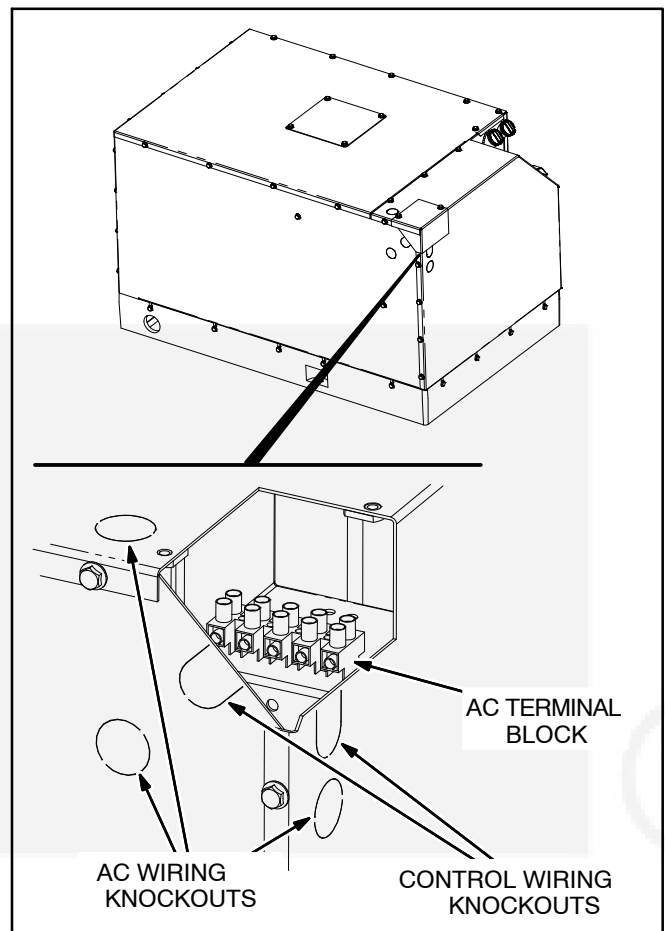
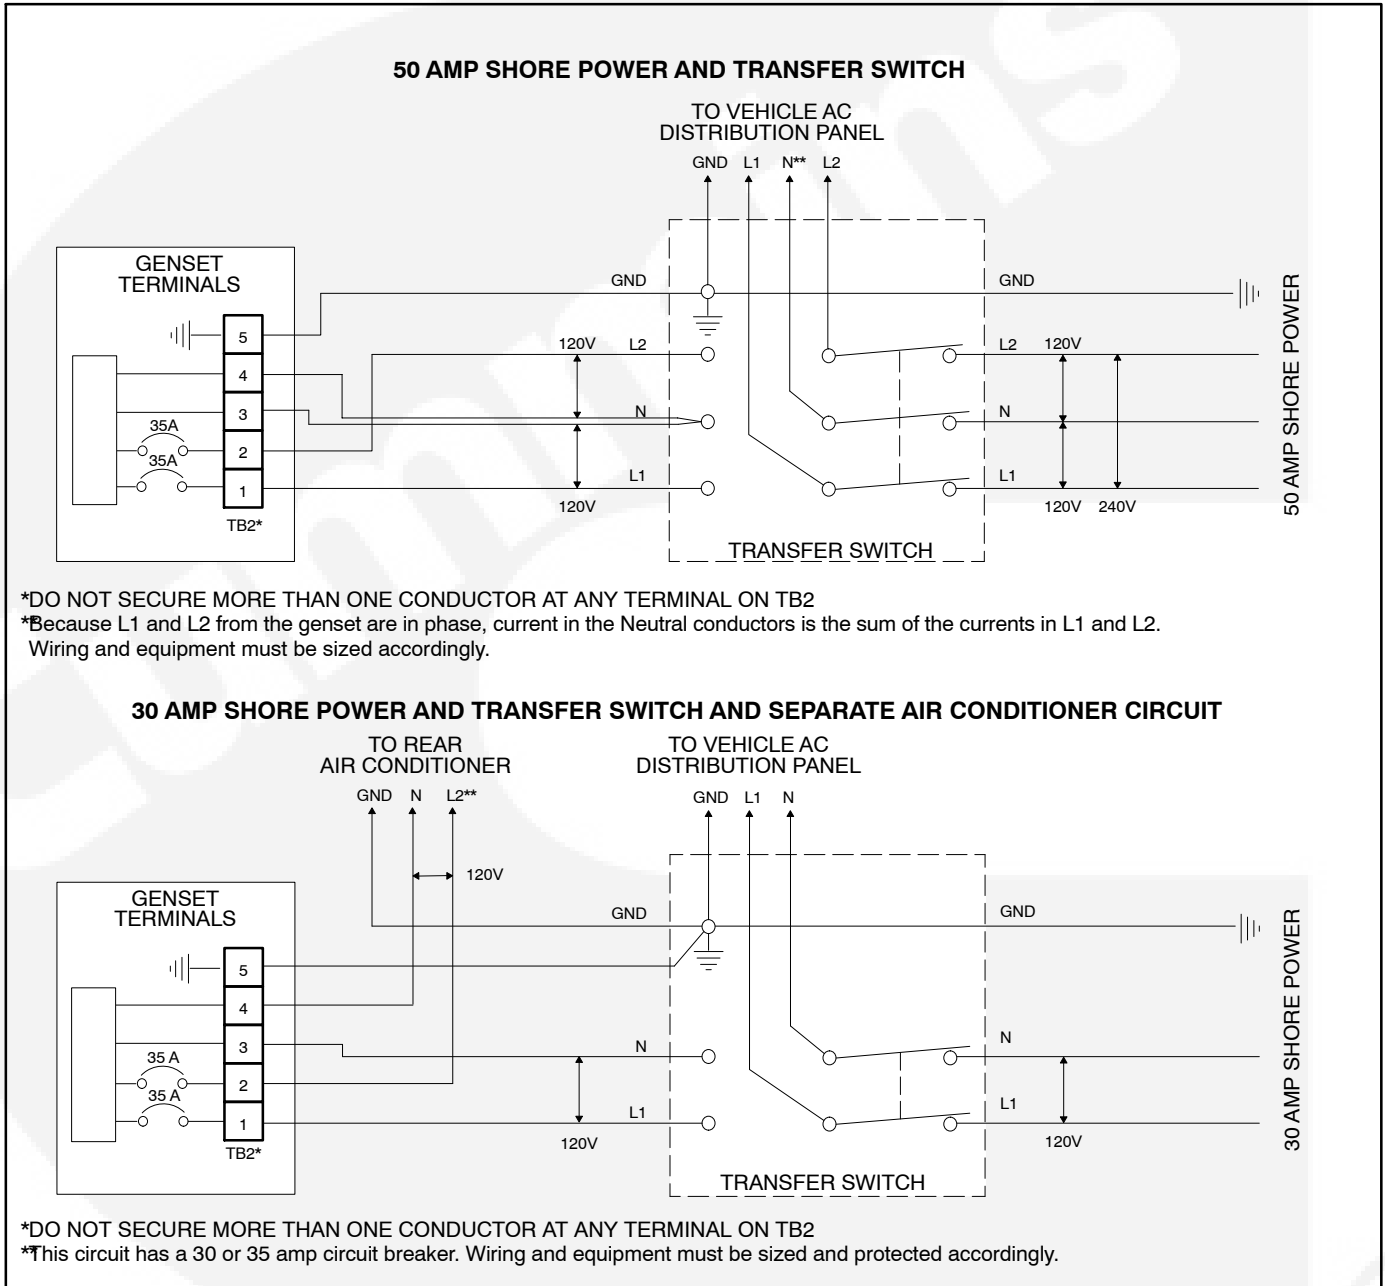

FIGURE 13. AC OUTPUT BOX
FIGURE 14. TYPICAL CONNECTIONS
The genset is equipped with a terminal block and conduit connector knockouts for AC power output connections (Figure 13). See Figure 14 for typical connections.
8. Connect the grounding terminal (Terminal TB2-5, Figure 14) in accordance with applicable codes.
When the vehicle has provision for connecting utility power it must have an approved device to keep the genset and utility from being interconnected. See Figure 14 for typical connections.